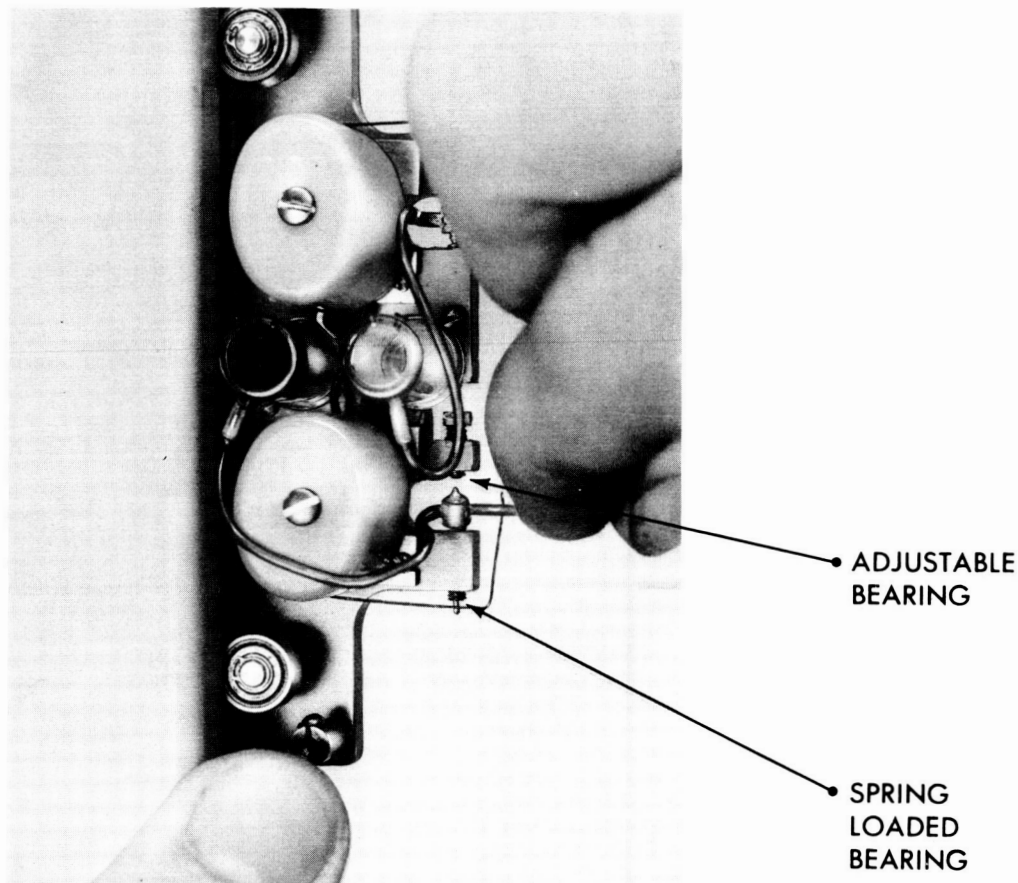

Figure 3-4. Replacing Pens
- e. Replace the pen in its bearings. (See Figure 3-4).
to move the pen more than  $1/32$  of an inch, such may be the case. If so, compensate for the changed load on the spring loaded bearing by adjusting the spring loaded bearing adjustment screw. Proper spring tension is present when there is just enough clearance for the pivot point when the pen is depressed against the spring loaded bearing and swung into place. (See Figure 3-4).